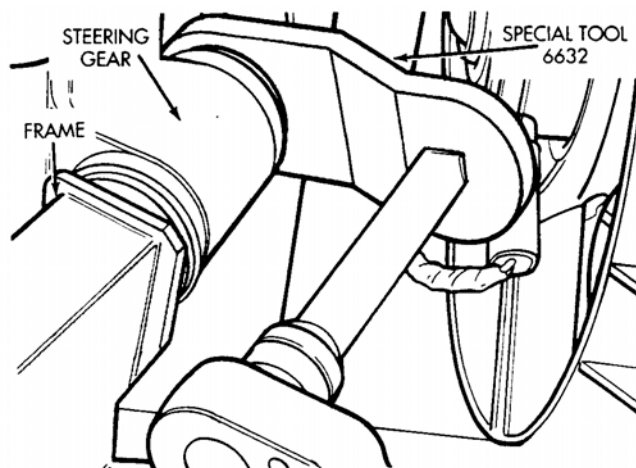

Figure 4
- Using Special Tool #6632, remove the two steering gear mounting bolts (Figure 4).